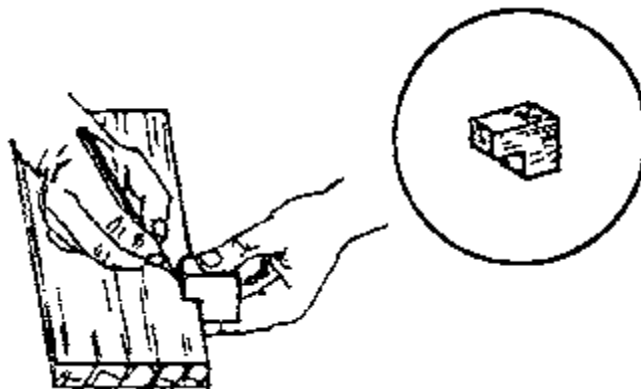

Fig. 3
- Another method of drawing lines parallel to an edge is with a small pencil gauge. This is simply a small, rebated wooden block which is pressed against the edge of the timber and used to guide the pencil, as shown in Fig. 3. The pencil gauge is often used to mark out the position of chamfers.